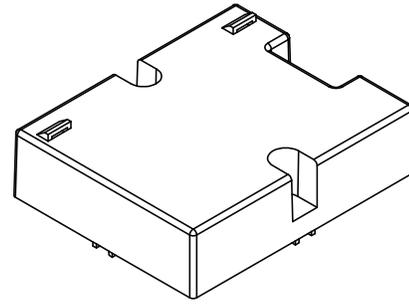

Fig. 55 — Enthalpy Sensor
6. Place enthalpy sensor, shown in Fig. 55, in location suitable to meet manufacturer's requirements.